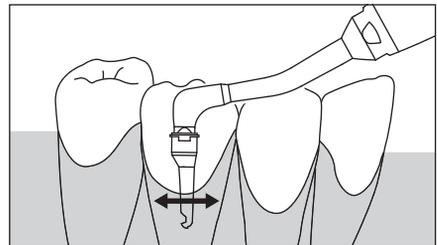

Fig. 6
- 3) Insert the Nozzle Tip into a periodontal pocket by 3 mm or more. (Fig. 6)